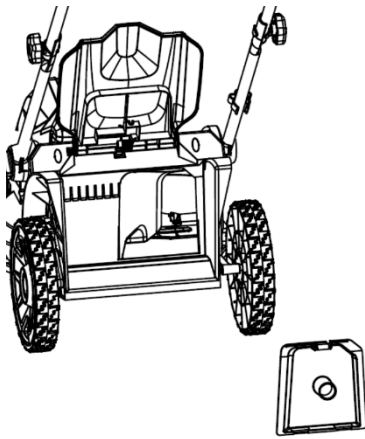

Fig.8A
1. Raise the rear cover and remove the grass catcher. (Fig.8A)